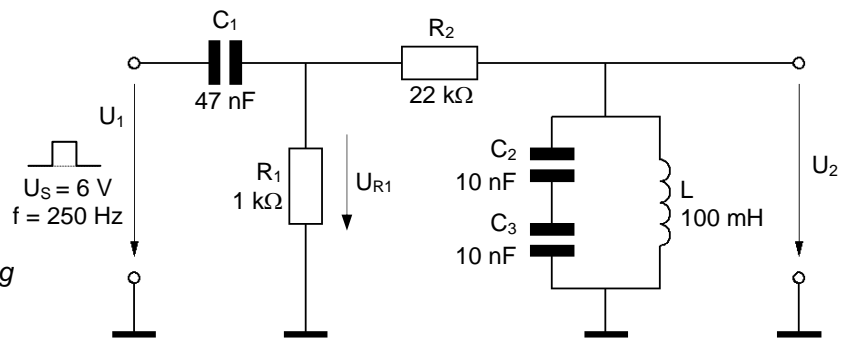
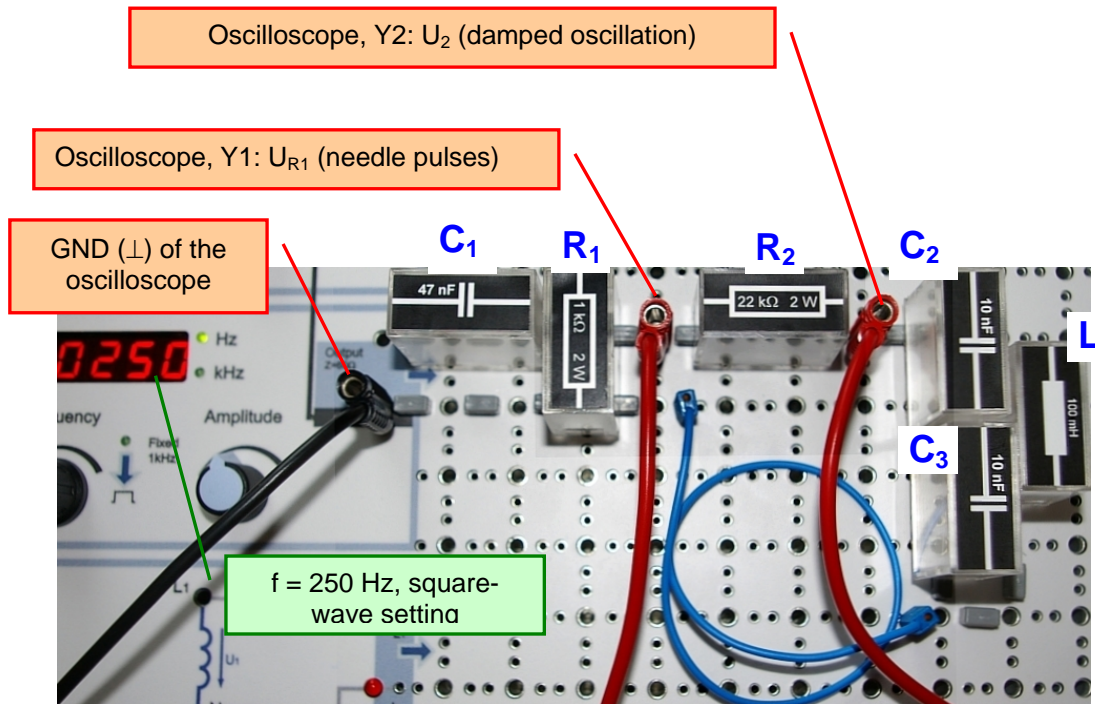

Fig. 16.3.9: Circuit for generating damped oscillations
Fig. 16.3.12: Layout, Damped oscillation“
Circuit description: The circuit shown in Fig. 16.3.9 for generating an oscillation, consist of 3 parts:
- Assemble the circuit in Fig. 16.3.9 on the Electronic Circuits Board. Break the connection between the RC-element and oscillating circuit by removing the coupling resistor R_2 .
Fig. 16.3.12 shows the exercise layout corresponding to the circuit of Fig. 16.3.9 for generating damped oscillations. The illustration shows the second measurement required on the oscilloscope. To reduce the amount of re-connection, a 2 mm connection lead is used.